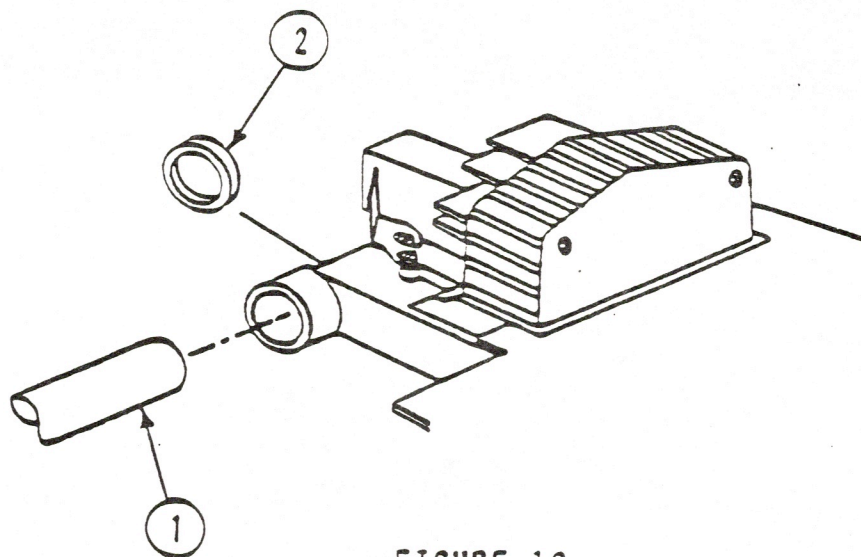

FIGURE 10
4. On the carrier shaft, wipe off any dirt with dry gauze or absorbent cotton. (Figure 10, #1.)
5. On the lubrication ring, apply a small amount of lubrication oil. (Figure 10, #2.)